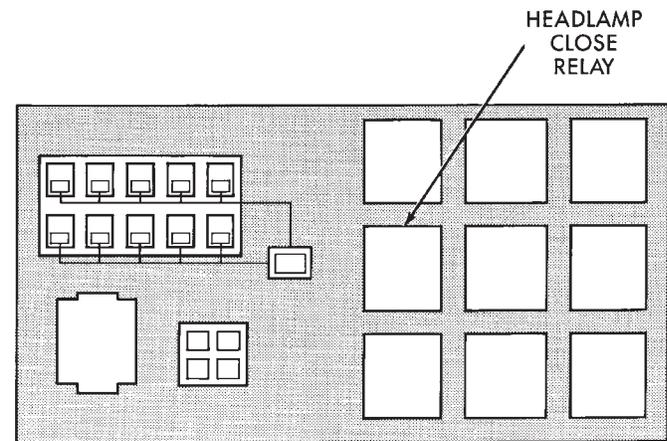
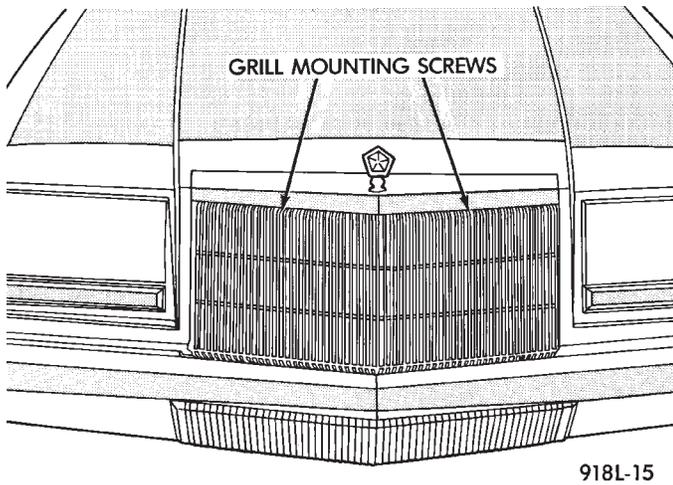

Fig. 12 Headlamp Close Relay
Fig. 13 Grille
- (3) Remove cover from the center and pull the Headlamp Close Relay (Fig. 12) to keep the headlamp doors from closing.
- (4) Turn headlight switch OFF.
- (5) Remove two grill mounting screws and remove grill assembly (Fig. 13).
- (1) Open headlamp doors. Refer to Headlamp Door paragraph for instructions.
- (2) Remove two grille mounting screws and remove grille assembly (Fig. 13).